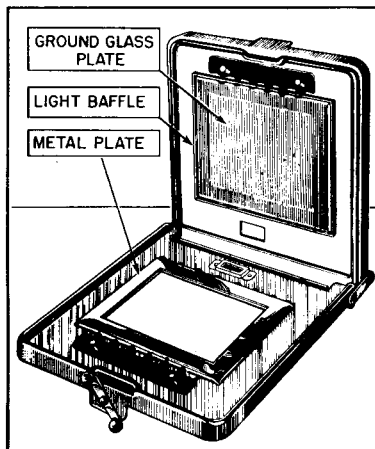

Figure 22
and condenser system, and swing the enlarger to a horizontal position. Insert the metal light baffle, with the side marked "FRONT" toward the sliding clamp, in the upper section of the negative carrier, then nest the ground glass plate inside the baffle, and secure both with the sliding clamp; and place the metal pressure plate in the lower section of the negative carrier. See Figure 22. Push the negative carrier all the way back between the gate plates. It is of the utmost importance to turn the pressure lever (74) so that the carrier is closed before focusing.